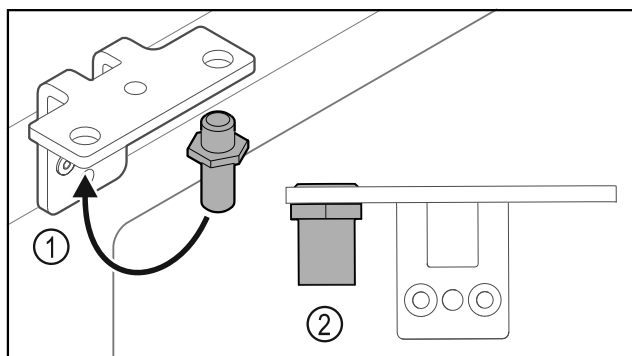

Fig. 36
- Put the pin back into the hinge Fig. 36 (1).
- Tighten the pin Fig. 36 (2) to a **torque of 12 Nm**.